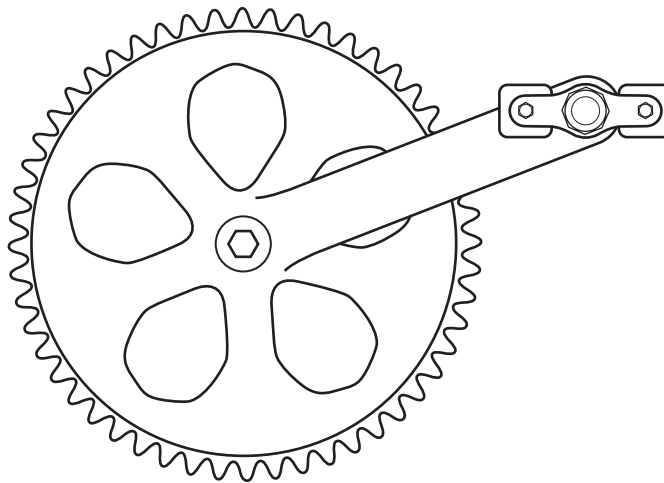

Fig. 6
- 9 Fig. 6 shows a crank lever, chain ring and pedal from a bicycle.